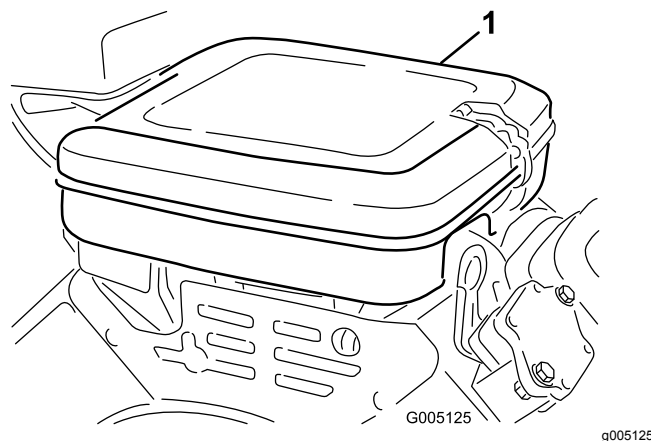

Figure 26
1. Clean the air-cleaner cover (Figure 26).